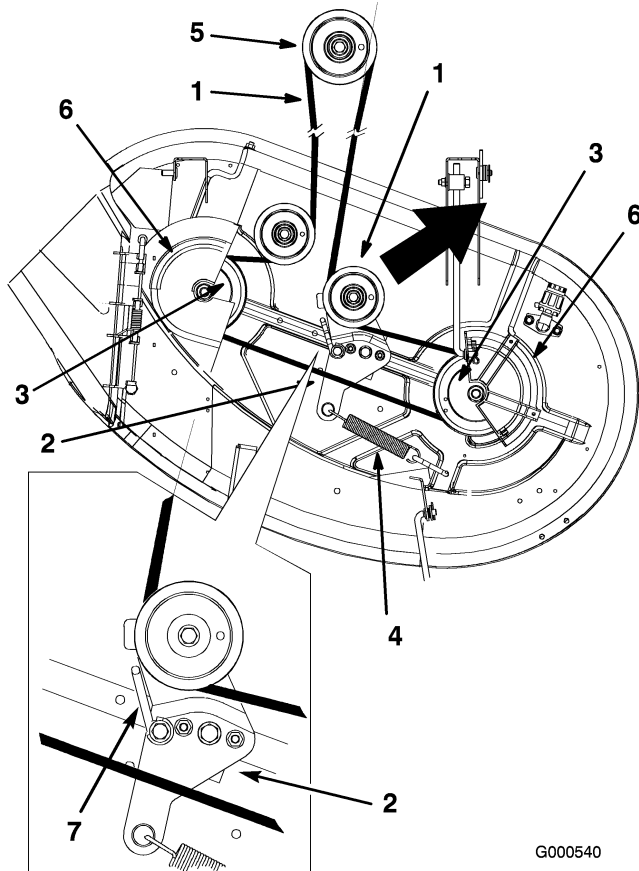

Figure 51
4. Remove the belt covers over the outside spindles and loosen the belt guide (Figure 51).
5. Pull the idler pulley in the direction shown in Figure 51 and roll the belt off of the pulleys.
6. Route the new belt around the engine pulley and mower pulleys (Figure 51).
7. Pull the idler pulley in the direction shown in Figure 51 and route the belt onto the idler pulley (Figure 51).
8. Rotate the belt guide, on the idler arm, towards the pulley until it stops (Figure 51).
9. Tighten the belt guide (Figure 51).